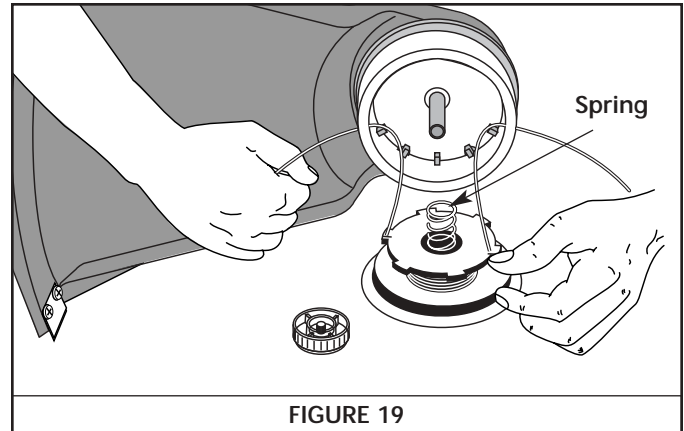

FIGURE 19
- Insert the ends of the line through the eyelets in the outer spool and place inner reel with spring inside the outer spool. See Figure 19. Push the inner reel and outer spool together. While holding the inner reel and outer spool, grasp the ends and pull firmly to release the line from the holding slots in the reel.
- Insert the ends of the line through the eyelets in the outer spool. See Figure 19.